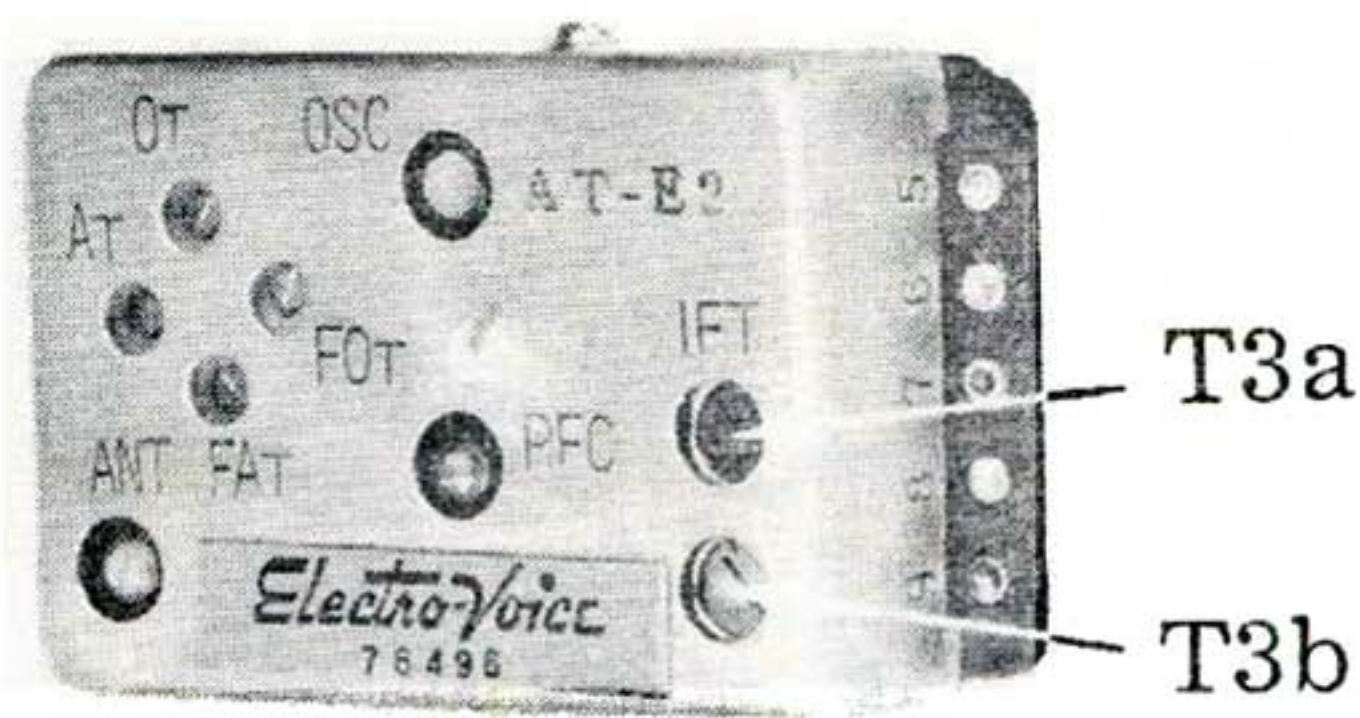

Figure 8
10. Adjust T3b and T3a for maximum deflection. (See figure 8)